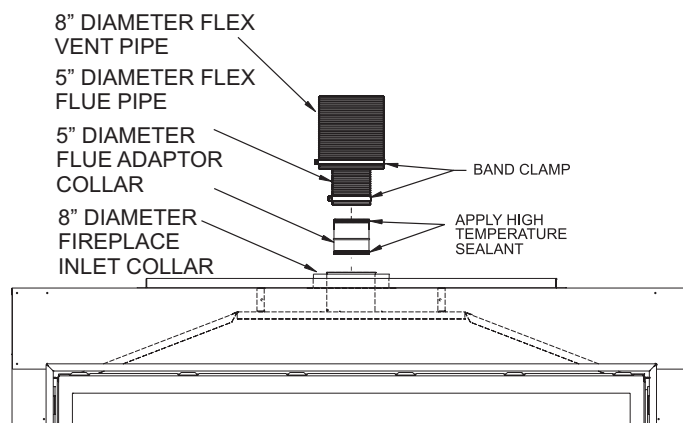

Figure 59a
- 10a. Apply sealant to the outside of the flue pipe adapter and connect to the flex flue pipe. Then insert the adapter into the fireplace flue. Secure the flue adapter to the fireplace flue with a minimum of two screws provided. **See Figure 59a.**